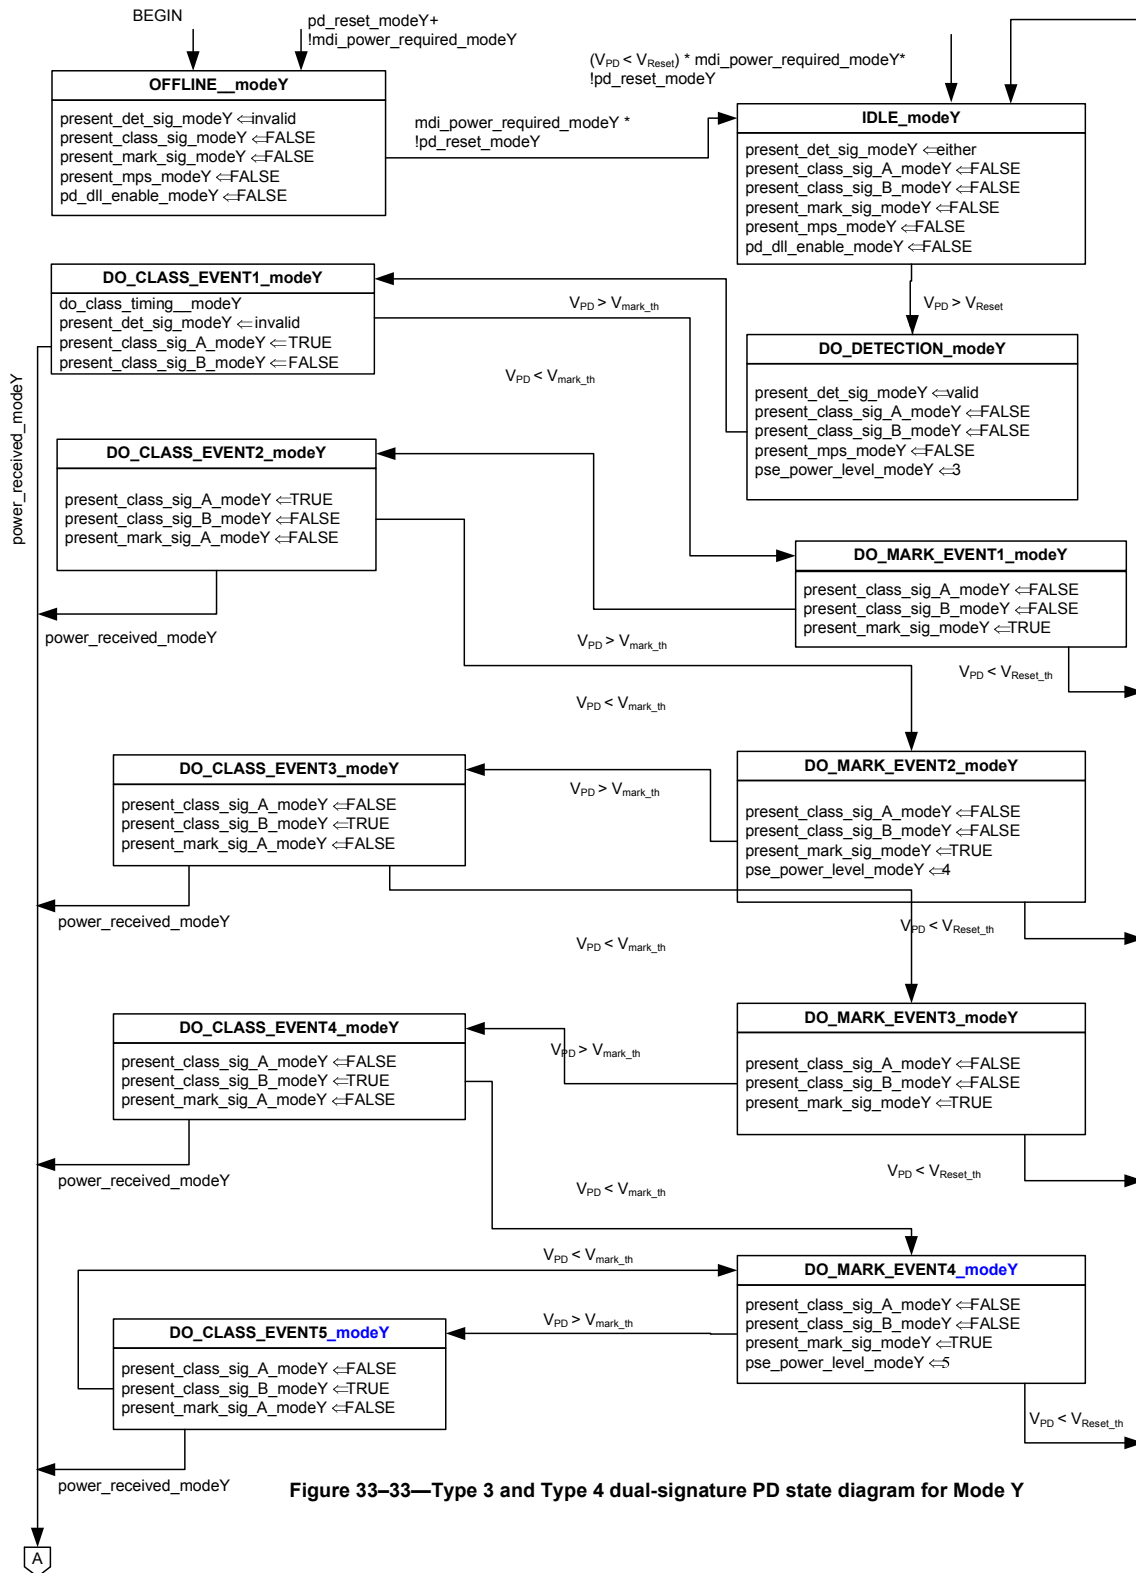

Figure 33-33—Type 3 and Type 4 dual-signature PD state diagram for Mode Y
Make the following changes in Figure 33-33:
1. Change the title of figure 33-33 on page 135 as follows:
2. Change the title of figure 33-33 on page 136 as follows:
3. Make the following changes in Figure 33-33 on page 135.
4. Make the following changes in Figure 33-33 on both pages 135 and 136:
5. Make the following changes in Figure 33-33 on page 136:
7. The revised Figure 33-33 is attached below (two pages)